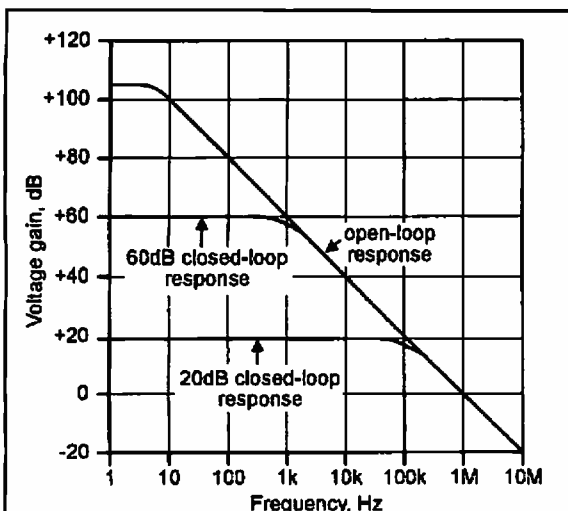

Figure 6. Typical frequency response curve of the 741 op-amp.
9. f_T (transition frequency). An op-amp typically gives a low-frequency voltage gain of about 100dB, and in the interest of stability its open-loop frequency response is internally tailored so that the gain falls off at a rate of 6dB/octave ($= 20\text{dB}/\text{decade}$), eventually falling to unity (0dB) at a transition frequency denoted f_T . Figure 6 shows the typical response curve of the type 741 op-amp, which has an f_T value of 1MHz and a low frequency gain of 106dB. Note that, when the op-amp is used in a closed loop amplifier circuit, the circuit's bandwidth depends on the closed-loop gain. Thus, in Figure 6, the circuit has a bandwidth of only 1kHz at a gain of 60dB, or 100kHz at a gain of 20dB. The f_T figure